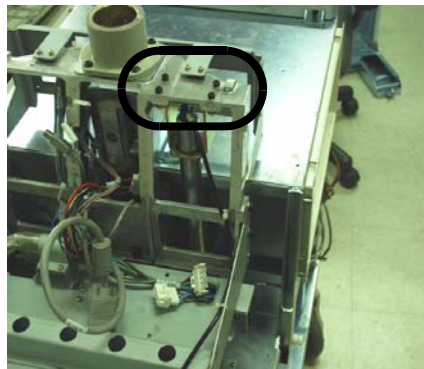

Figure 8-82 Unscrew 4 hexagon screws
- 4.) Unscrew four (4) hexagon screws (7-10). Refer to Figure 8-82 on page 8-62 .